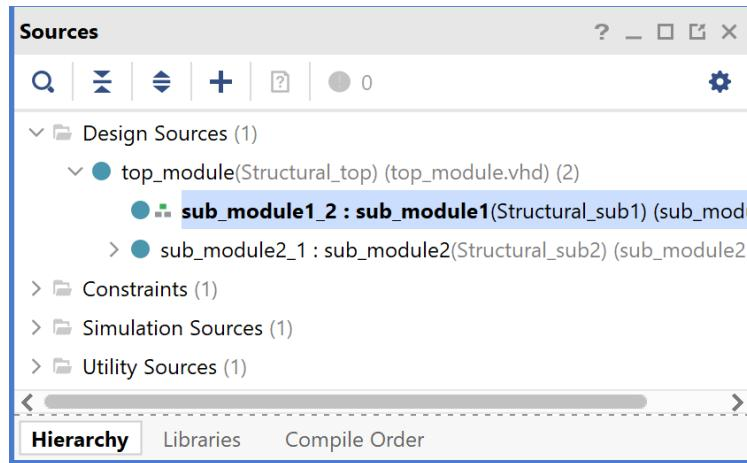
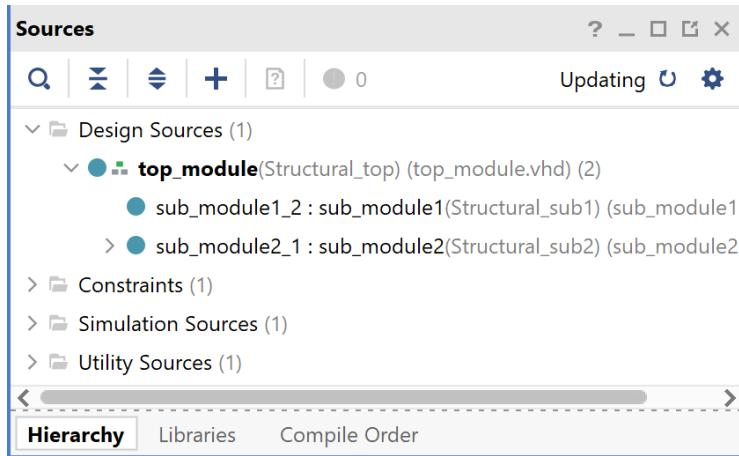

Figure 2.8: top_module not set as top.
Figure 2.9: top_module set as top.
- 6) The last error was in the hierarchy section. top_module.vhdl file wasn't set as top in the hierarchy (Figure 2.8). This caused error because top_module was created with using the sub modules. To solve this error, just right click on the top_module.vhdl in the hierarchy and click set as top (Figure 2.9).